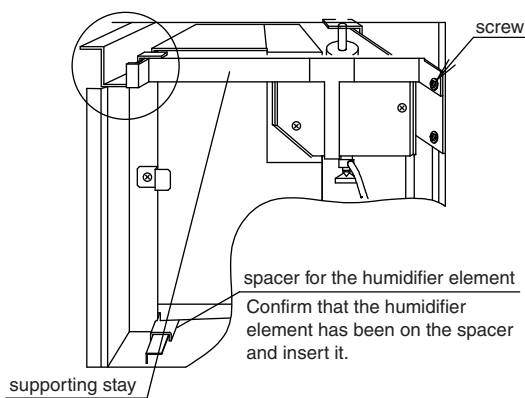

Fig. 3
2. Before cleaning or replacing, remove the supporting stay. (Fig.3)